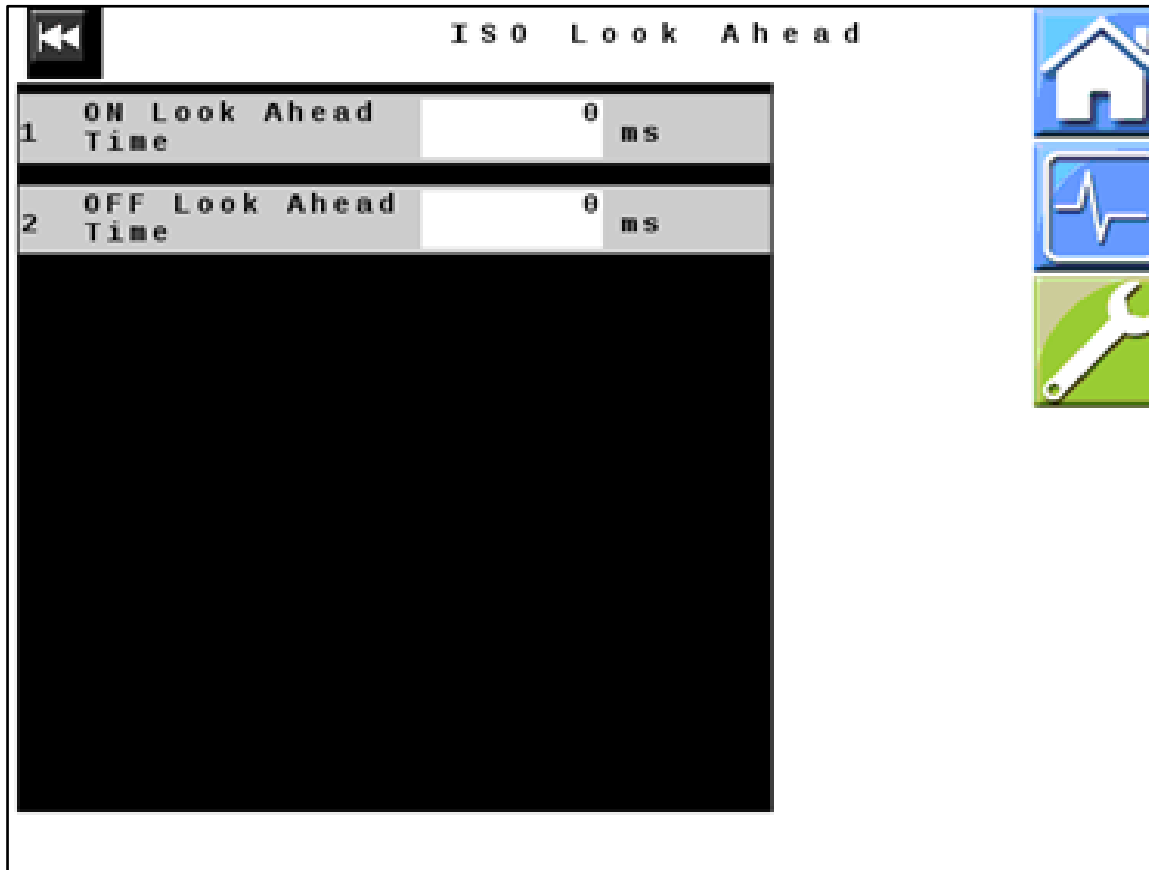

Figure 22 — ISO Look Ahead
38. *Figure 22*: Verify that all values displayed on your unit match those shown here. Change values if necessary.